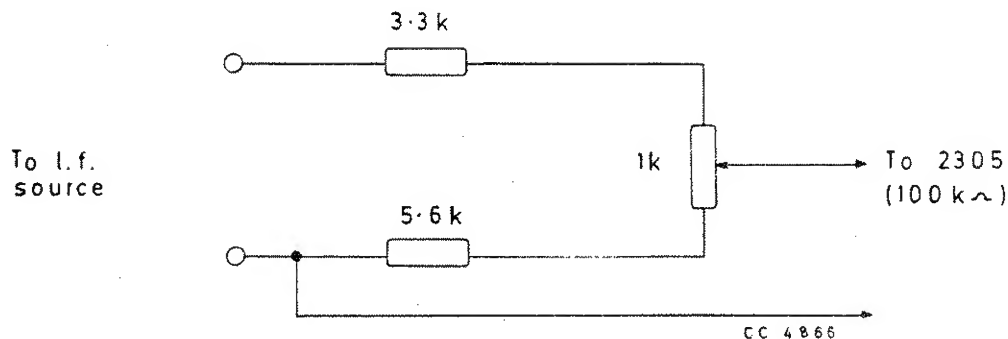

Fig. 2 Calibration network to give 5 V full-scale
1. Although the primary application of the 2305 is in the measurement of modulated r.f. signals, the low frequency measurement circuits in the instrument can usefully be accessed for measurements on low frequency signals such as those originating, for example, in the output stages of receivers. Entry to the l.f. stages is via the rear panel jack socket normally intended for the insertion of external special filters. Reference to Fig. 2 in Chap. 2 and Fig. 2 in Chap. 4-1 will show that if the jack tip connection is ignored, a signal connected between the ring and the sleeve of the jack will be substituted for the internal demodulated signal. Most of the functions of the DATA and FUNCTION keys are still available so that both absolute and relative level measurements can be made including signal to noise ratio. Voltage measurements may be peak or average responding and, if the Distortion/Weighting filter option kit is fitted, the measurements may be weighted and extended to include distortion if required. The signal frequency can be displayed in the FREQUENCY window.
3. The 2305 requires a 3 V signal at this point to produce full-scale on the voltmeter. The voltmeter can be made direct reading on a '5' full-scale range by the addition of a simple calibration network of the kind shown in Fig. 2 between the source and the jack connections.
3. Reference should be made to the instrument block diagram, Fig. 2, page 7/8. The signal for measurement passes to the input attenuator via a coaxial line relay which isolates the input when it is overloaded. The attenuator has three switchable pads, two of 14 dB and one of 7 dB, which are introduced in 7 dB steps. A diode detector connected immediately after the input protection circuit serves the dual purpose of metering the input power level and, when necessary, of triggering the overload detector circuit. The overload detector shares a circuit board with the l.o. voltage controlled oscillator. When tripped, it causes the INPUT OVERLOADED annunciator in the modulation display to light up and opens the protection relay. The relay can then only be reset by the microprocessor following intervention via the keyboard or GPIB.